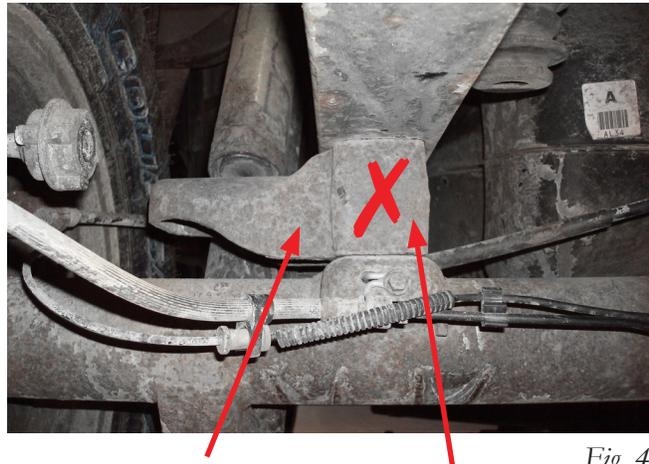

Fig. 4
3. Remove the stock U-bolts on both driver's (left) and passenger's (right) sides and discard. Lower the axle assembly or raise the frame up slowly, far enough to remove the jounce bumper strike plate/spacer blocks from between the leaf spring and axle. Move the driver's (left) side to the passenger's (right) side and the passenger's (right) to the driver's (left) side and install back between the leaf spring and axle (Fig. 4). Ensure that the mark on the back of the jounce bumper strike plate/axle spacer faces the rear. The strike plate should face the wheel, leaving the space between the frame and axle open. Drop the frame or raise the axle assembly slowly just far enough to hold the jounce bumper strike plate/spacer blocks into position.